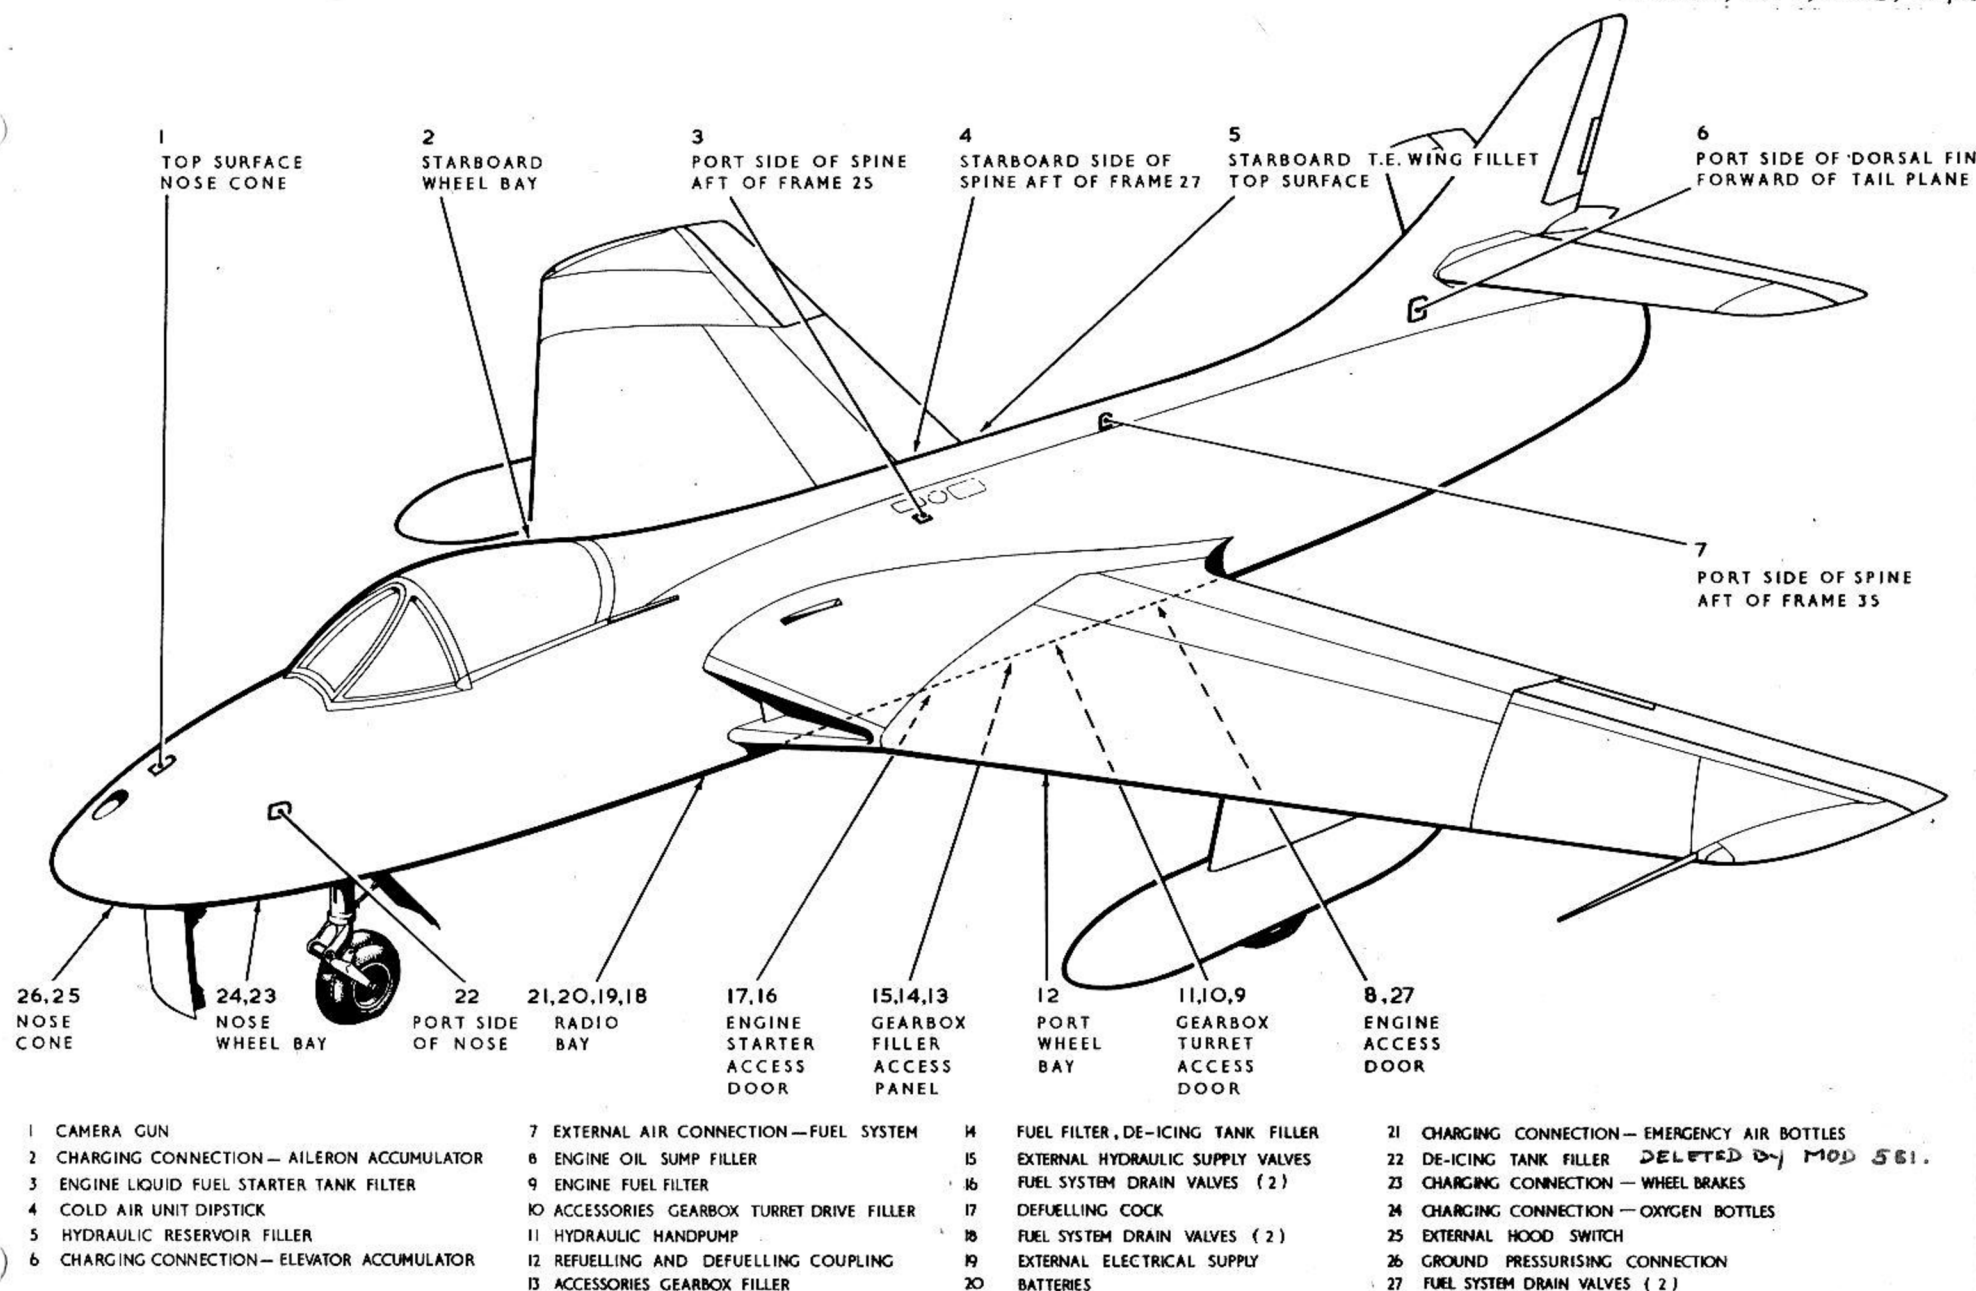

FIG. 1 SERVICING POINTS
6. Access to the filler neck of the hydraulic reservoir is obtained by removing an access door from the top surface of the starboard wing fillet (fig.1, item 5). The filler neck is provided with a sight glass to facilitate checking the level. If, with the aircraft standing on its alighting gear with the hydraulic accumulators inflated and fully charged and the landing flaps and air brake up, the level no longer overlaps the white background below the sight glass, the reservoir must be topped up. To top up, remove the filler cap slowly to release any built up pressure and pour in fluid until it reaches the white background. A container, fitted with a flexible nozzle, should be used to facilitate the operation. When refilling is complete, replace the filler cap securely and mop up any spilled fluid.
the cabin between frames 10 and 11 above the cabin shelf. If the pressure is below that indicated in the Leading Particulars, the bottles must be recharged. An in-situ charging valve, located on the port side of the battery mounting platform and accessible via the radio access door (fig.1, item 21), is provided for the purpose. All four bottles are charged simultaneously through the one valve.
8. Access to the wheel brakes hydraulic accumulators and their charging connection is from within the nose wheel bay, port side. The pressure in the accumulators is indicated on the brake accumulator pressure gauge on the rear of the cabin port shelf. If the air pressure shown on the gauge is below that quoted in the Leading Particulars, after dissipating the hydraulic pressure by operating the brakes until they cease to operate, the accumulator must be recharged through the charging connection in the wheel bay (fig.1, item 23).
they cease to operate, the air pressure should be checked by connecting a pressure gauge to the charging connection and if below that quoted in the Leading Particulars, the accumulator must be recharged (Fig.1, item 2).
When pressure is dissipated prior to recharging, the power control for the ailerons is automatically disengaged and, therefore, it is important to ensure that the pawls of the hydro-booster jacks are re-engaged before flight by holding the aileron and operating the control column, while using the hand-pump (fig.1, item 11).
10. Access to the hydraulic accumulator and its charging connection may be obtained by removing an access door in the port side of the dorsal fin just forward of the tail plane. The access door is provided with a window to enable the accumulator pressure to be checked by reference to a pressure gauge located adjacent to the accumulator. If, after dissipating the hydraulic pressure by operating the controls a number of times until they cease to operate, the air pressure shown on the gauge is below that quoted in the Leading Particulars, the accumulator must be recharged after removing the access door (fig.1, item 6).
11. The two oxygen cylinders are mounted in the nose of the aircraft between Frames 4, 5 and 6 on the starboard side of the aircraft, the in-situ charging valve Mk.8^{or Mk.10} being mounted below them on the forward face of Frame 6, (Fig.1, item 24). Access to both the cylinders and charging valve can be obtained from within the nose wheel bay. The cylinders may be re-charged in-situ to the pressure quoted in the Leading Particulars, through the valve, or the cylinders may be replaced by fully charged cylinders as described in Section 3, Chapter 10 of this handbook. The procedure for in-situ charging is described in A.P.1275A, Vol.1, Section 8, Chapter 3.
12. The two 12 volt batteries are carried on a platform mounted at the bottom of the radio bay in the front fuselage. Access may be obtained via the radio access doors (fig.1, item 20) and the procedure for changing the batteries is as follows:-
~~13. The de-icing tank is mounted between frames 4 and 5 (Fig.1, item 22), access being obtained by removing a small access panel in the port side of the nose of the aircraft. The tank should be filled up to the level of the filler cap with de-icing fluid to the specification quoted in the Leading Particulars.~~
14. The filler for the liquid starter fuel tank is accessible via a small access panel in the top port side of the centre fuselage, just aft of the main spar (Fig.1, item 3). The dipstick is marked for four starts (approx. $\frac{1}{2}$ gall. per start). The tank should be topped up to the upper start mark on the dipstick. (Care should be taken to ensure that no liquid is spilled as it is detrimental to electric cables etc.)
15. An access door in the top starboard side of the centre fuselage (Fig.1, item 4), between frames 27 and 28 gives access to the cold air unit dipstick and filler orifice. The oil level in the unit should be examined daily and topped-up as necessary with oil as quoted in the Leading Particulars until
16. The engine oil sump is filled under pressure via a self sealing connection which is accessible through the main engine access door (Fig.1, item 8). The sump is provided with a sight glass to indicate the oil level. If level is low as indicated by the sight glass, oil should be pumped into the sump via the self-sealing connection until level is correct. The type of oil to be used is quoted in the Leading Particulars.
17. The accessories gear-box, and the turret incorporated in the drive assembly, are each provided with a filler and dipstick. Access to the gearbox filler is via an access door on the underside of the fuselage forward of the rear spar (Fig.1, item 13) and that of the turret via a larger door situated just aft of the rear spar (Fig.1, item 10). Prior to checking the level, ensure that the dipstick of each unit is pressed right home before removing. If level is low as indicated by the dipstick, replenish until the oil is level with the overflow
18. The fuel system filter de-icing tank is mounted in the engine bay. The tank is filled via two self-sealing couplings mounted adjacent to the bottom access door (fig.1, item14) forward of the rear spar in the centre fuselage. Alcohol is pumped from a ground supply to the aircraft tank. During the process of filling, the displaced air returns to the supply tank via a pipe which contains a sight glass. When alcohol is seen in the sight glass, the aircraft tank is full.